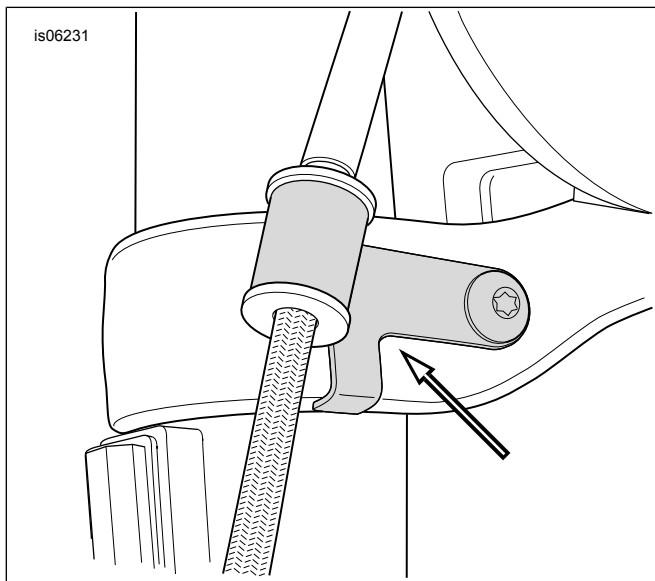

Figure 1. Front Brake Line Guide (Typical)
- a. The service manual indicates that the lower portion of the brake line is routed "between the forks" (inboard of the front fork). The lower portion of the **new** brake line **MUST** be routed **outboard** of the right front fork and down to the brake caliper (see Figure 1).